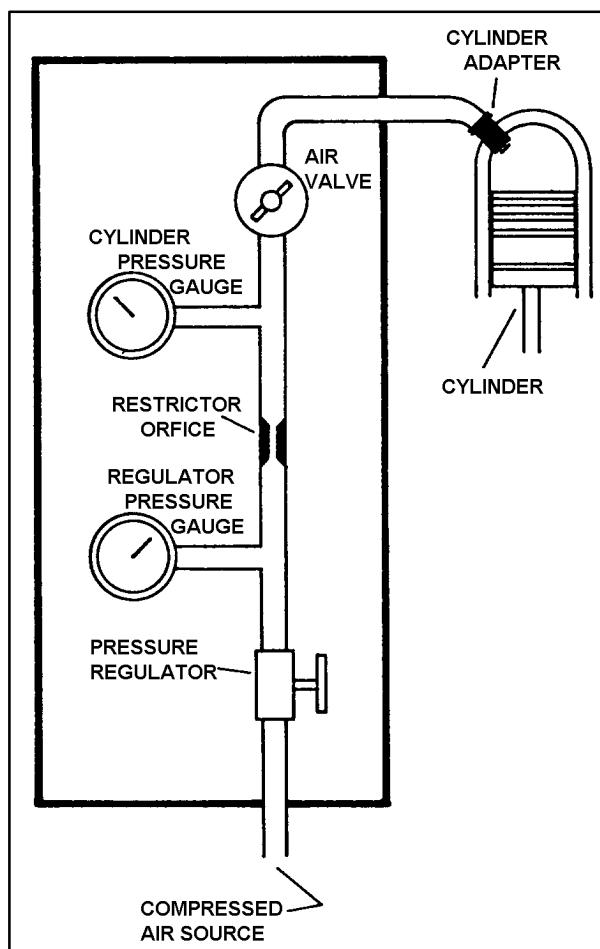

FIGURE 8-1. Schematic of differential pressure compression tester.
(1) Engines up to 1,000 cubic inch displacement: 0.040 inch orifice diameter, 0.250 inch long, 60-degree approach angle.
(2) Engines in excess of 1,000 cubic inch displacement: 0.060 inch orifice diameter, 0.250 inch long, 60-degree approach angle.
(3) A typical schematic diagram of the differential pressure tester is shown in figure 8-1.